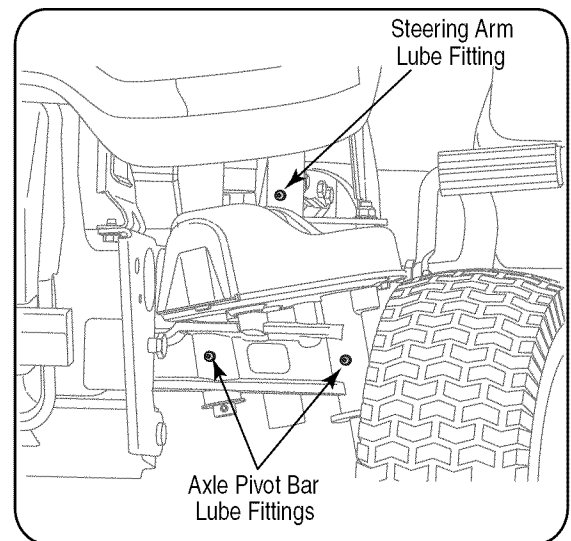

Figure 21
- Apply grease through the lube fitting on the RH and LH steering arms which are located at rearward end of the two steering drag links. See Figure 21.
- Locate the lube fittings for the pivot shaft and axle on the front of one end of the axle pivot bar. Apply grease through the two lube fittings, then repeat to lubricate the shaft and axle at the other end of the pivot bar. See Figure 21.